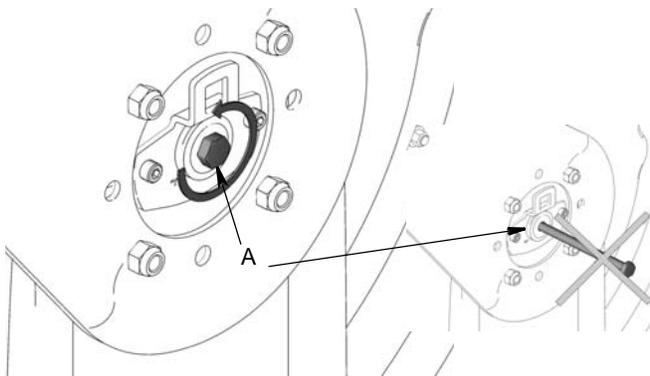

FIG. 19
1. Loosen, but **DO NOT REMOVE**, bolt (A) (approximately 3 to 5 turns) (FIG. 19).